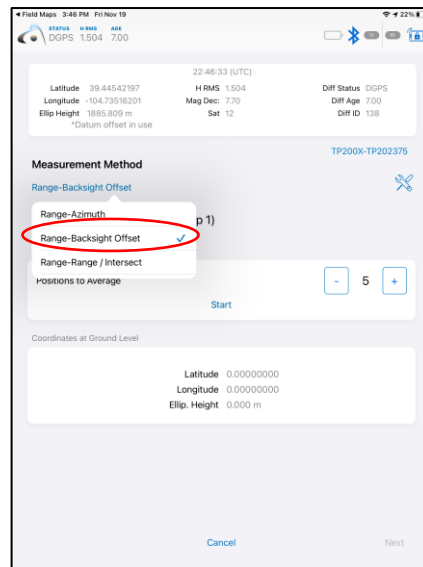

Figure 9B
- 9B. From the **Measurement Method** menu, select **Range-Backsight** and confirm the laser connection (Figure 9B)